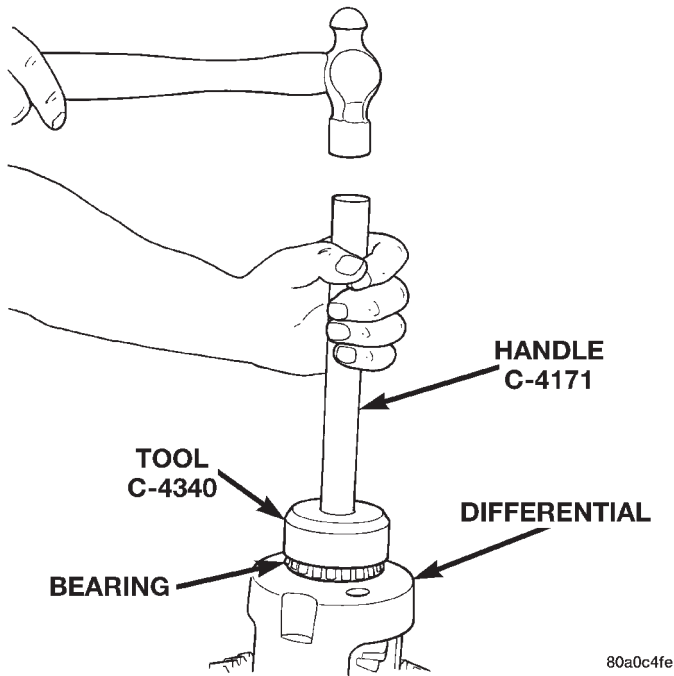

Fig. 39 Install Differential Side Bearings
- (1) Using tool C-4340 with handle C-4171, install differential side bearings (Fig. 39).
- (2) Install differential case in axle housing.